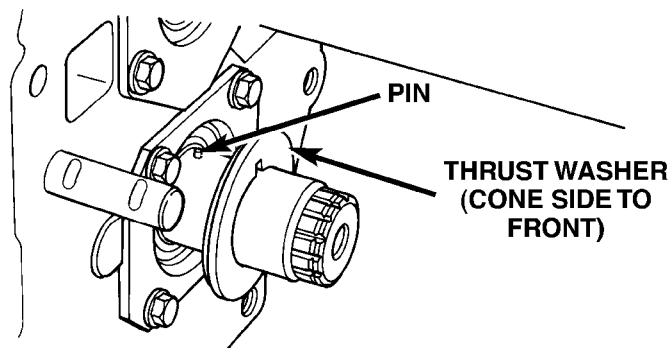

FIGURE 17 - Installing Fifth Gear Thrust Washer
47. Install the fifth gear synchronizer thrust washer pin into the countershaft bore (Figure 17).
48. Install the fifth gear synchronizer thrust washer onto the countershaft. The flat side of the washer faces the rear of the transmission and the tapered side faces the front of the transmission (Figure 17). Turn the washer until the pin engages into the thrust washer notch.